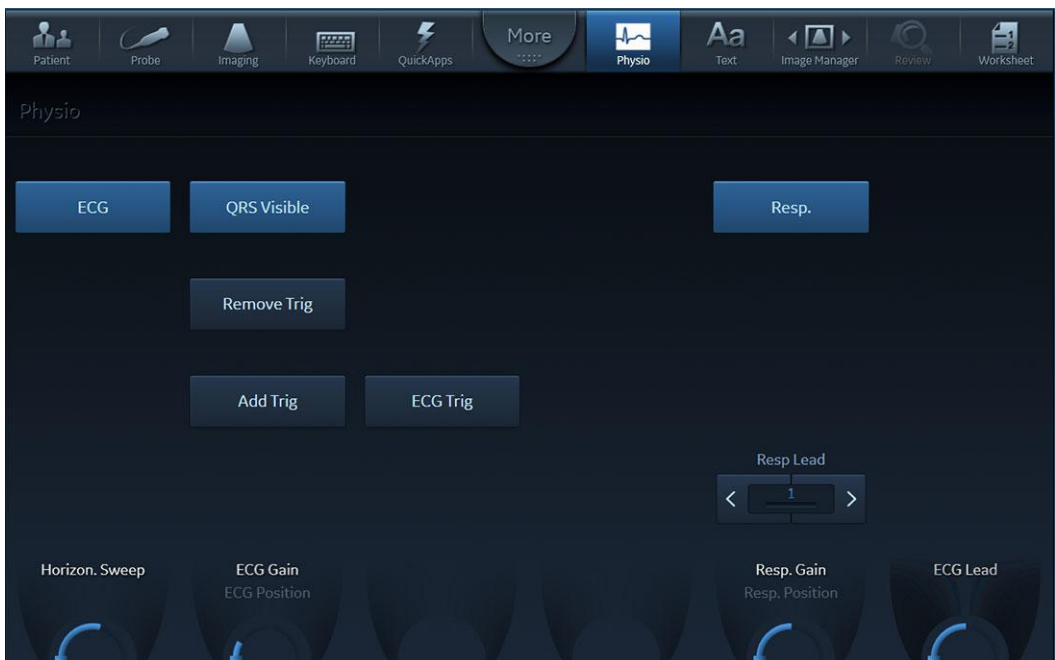

Figure 3-10. ECG controls
1. The ECG is displayed by default in all cardiac applications. For all other applications, press the tab **Physio** on the Touch Panel. and press **ECG** (Figure 3-10).